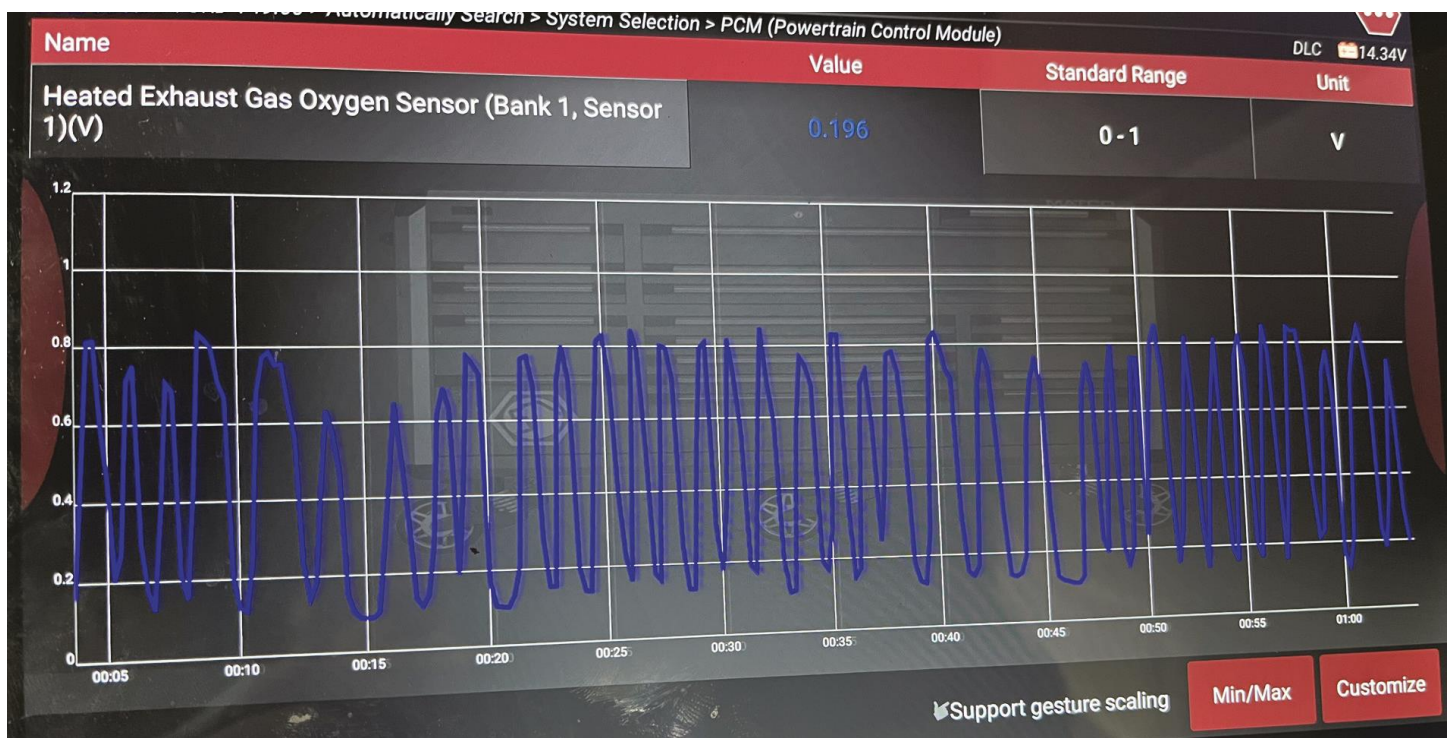

Figure 6. A scan tool graph showing oxygen sensor activity.
- With the key on, engine running (KOER), the upstream conventional zirconia oxygen sensor should switch rapidly within 200 mV and 800 mV. Figure 6.